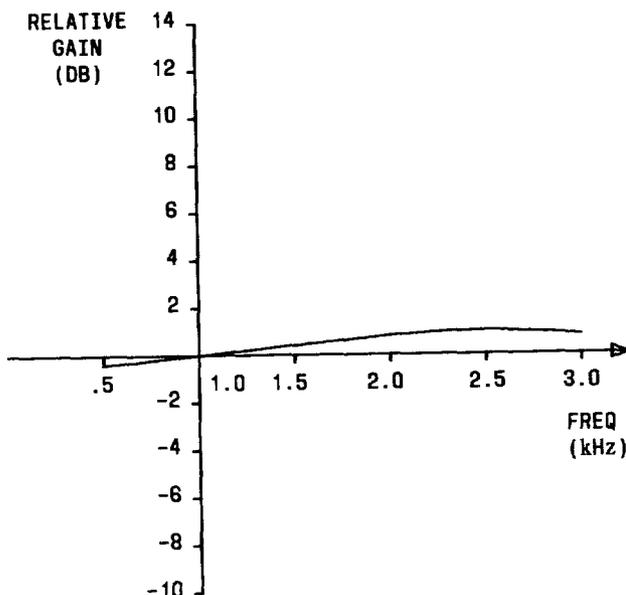

Fig. 4—Amplifier Frequency Response
4.02 Figure 4 gives the gain frequency response for the J99343PL (L1 and L2) repeaters.